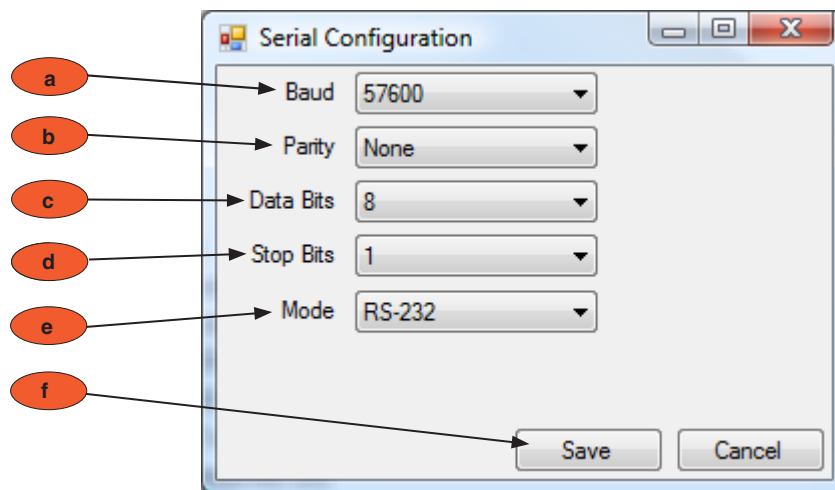

Figure 15
8. **Serial Port Configuration Button (Modbus RTU or ASCII only)** – Clicking the Serial Port Configuration button will open the Serial Configuration Window (new window) to configure the serial port settings. Reference image below (see figure 15).